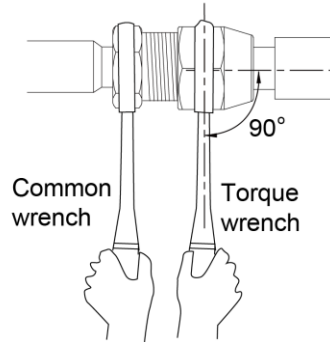

Fig. 4.3.5
- (3) Use torque wrench to twist on the flared nut tightly until the wrench gives out a click sound. (Hold the handle of wrench and make it at right angle to the pipe. as in Fig.4.3.5)
- (4) Use sponge to wrap the un-insulated connection pipe and joint. Then tie the sponge tightly with plastic tape.
- (5) Connection pipe should be supported by a bearer rather than the unit.
- (6) The bending angle of piping should not be too small; otherwise the piping might have cracks.